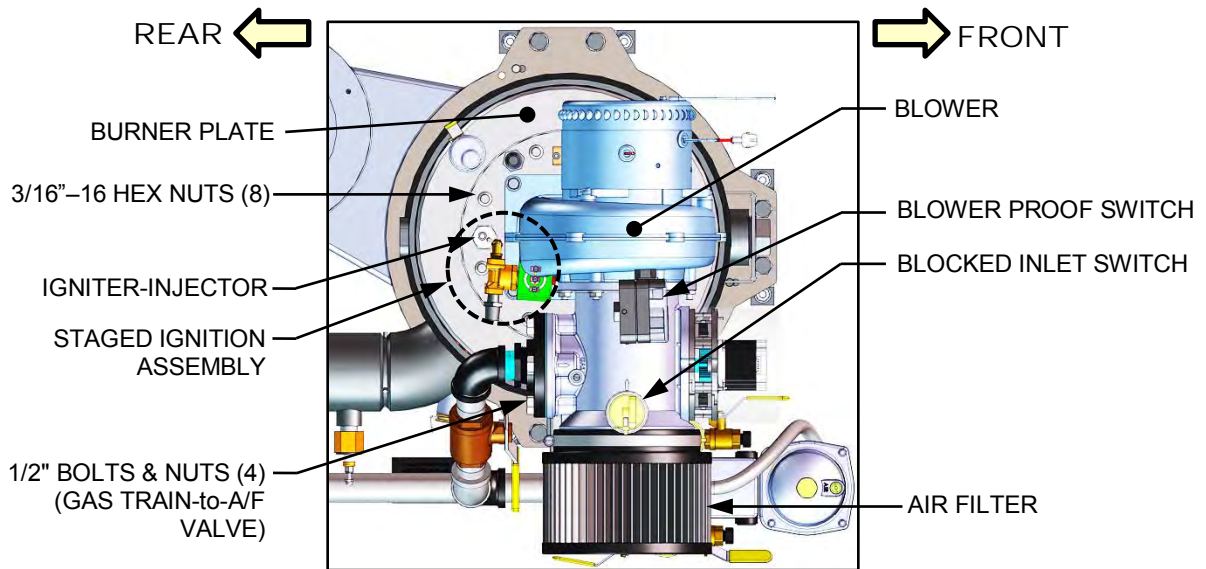
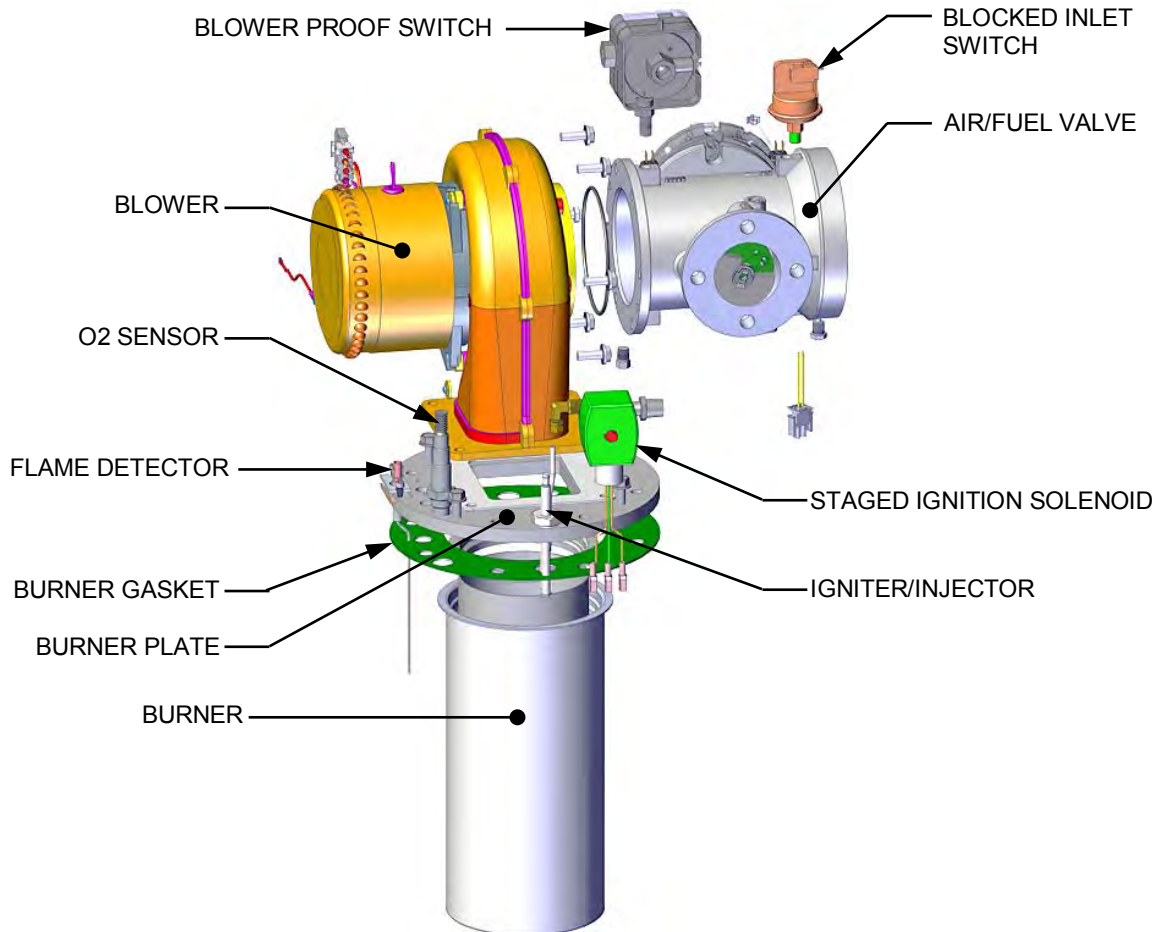

Figure 7-4: Burner Assembly Mounting Details – Overhead View
Figure 7-5: Burner Assembly – Exploded View
10. Disconnect the wire leads connected to the Blower Proof switch and Blocked Inlet switch (Figure 7-4 and Figure 7-5).
11. Disconnect the gas train from the air/fuel valve by removing the four (4) 1/2" bolts and nuts (Figure 7-4).
13. Remove the four 5/16-18 hex head screws securing the blower to the burner plate (Figure 7-5).
15. Remove the eight (8) 3/8-16 nuts from the burner flange (Figure 7-4) using a 9/16" wrench.